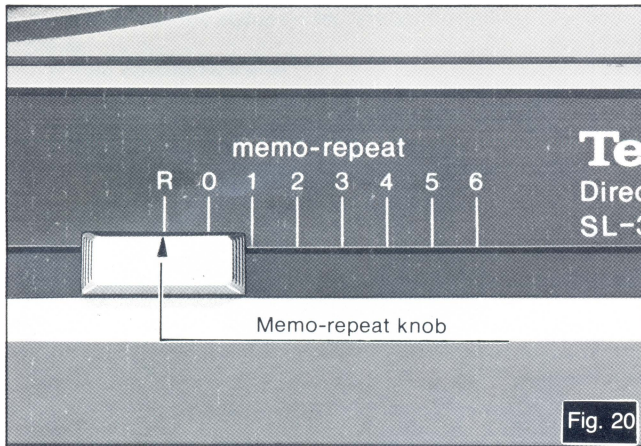

Fig. 20
- 2 Set the "memo-repeat" knob to the desired number of times you wish to play. (See Fig. 20.)